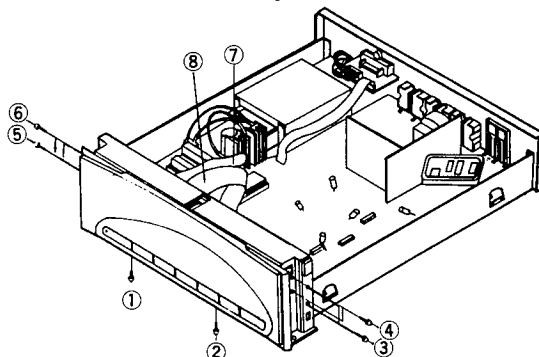

Fig. 3
1. Remove connectors ⑦ to ⑧ in Fig. 3
2. Remove screws ① to ⑥, and then remove the front panel assembly from the unit in Fig. 3
⑤ PCB-⑥ (Control PCB) Removal.
1. Remove the front panel assembly in Fig. 3. (Refer to step ④)